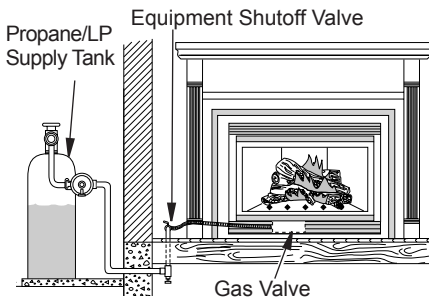
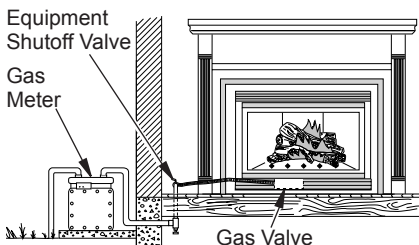

Figure 53 - Checking Gas Joints for Propane/LP Gas Fireplace
Figure 54 - Checking Gas Joints for Natural Gas Fireplace
3. Check all joints from propane/LP supply tank or gas meter to equipment shutoff valve (see Figure 53, for propane/LP or Figure 54, for natural gas). Apply noncorrosive leak detection fluid to all joints. Bubbles forming show a leak. Correct all leaks at once.
4. Check all joints from equipment shutoff valve to gas valve (see Figure 53 for propane/LP or Figure 54 for natural gas). Apply noncorrosive leak detection fluid to all joints. Bubbles forming show a leak. Correct all leaks at once.